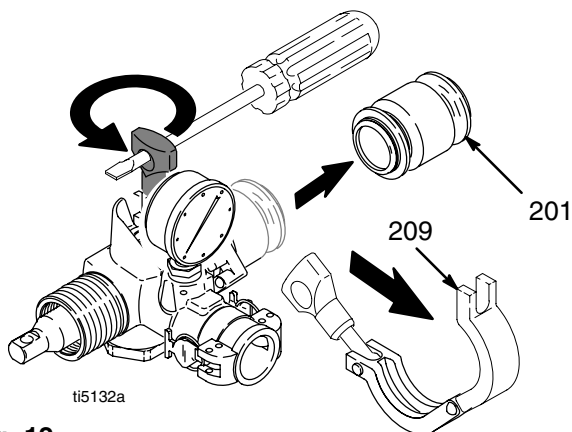

Fig. 12
3. Fig. 12. Remove clamp (209) and intake housing (204).